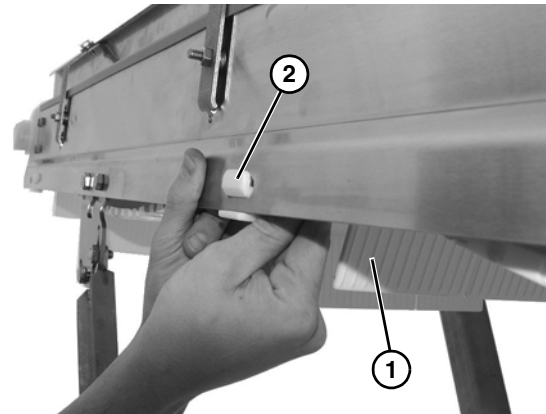

Figure 13
2. Install belt (**Figure 13, item 1**) around lower frame section and above lower wear strip (**Figure 13, item 2**).